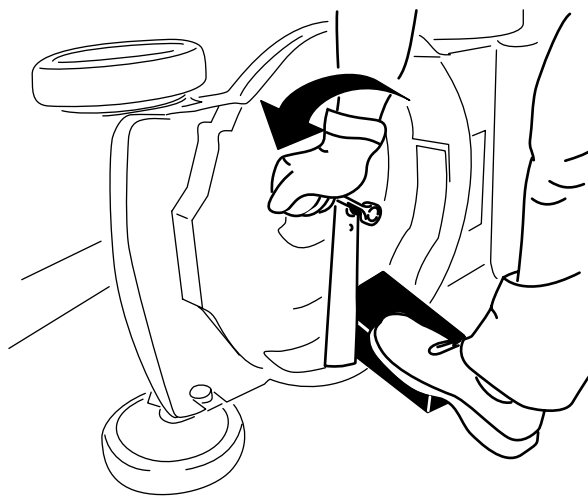

Figure 15
3. Remove the blade bolt and blade; save the blade bolt (Figure 15).